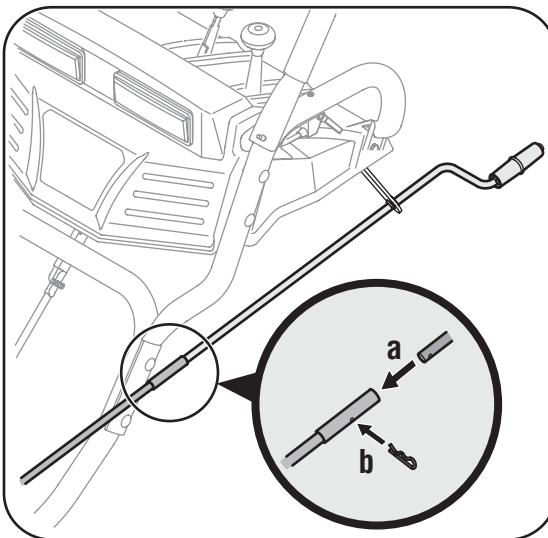

Figure 3-3
- Remove the hairpin clip from the upper chute crank and slide the upper chute crank into the lower chute crank. A pair of pliers may help in this job. See Figure 3-3.
- a. Align the two holes on both chute cranks. See Figure 3-3.